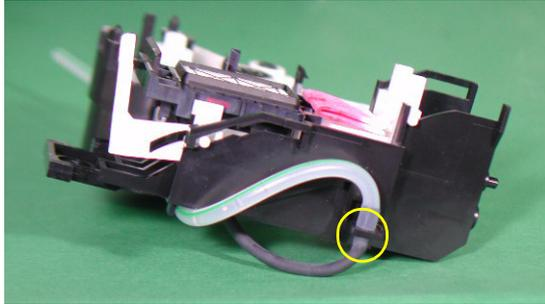

Figure 2-42. Connecting Point of the Ink Tube.
- Make sure that the Ink Tube is correctly connected to the point of the Frame, Cap shown in Figure2-42.